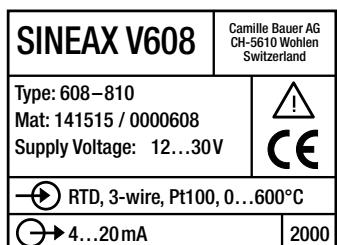

Fig. 6. Example of a nameplate.
- ... the data required to carry out the prescribed measurement must correspond to those marked on the nameplate of SINEAX V 608 (  Sensor, Range,  Output, Supply Voltage) (see Fig. 6)!